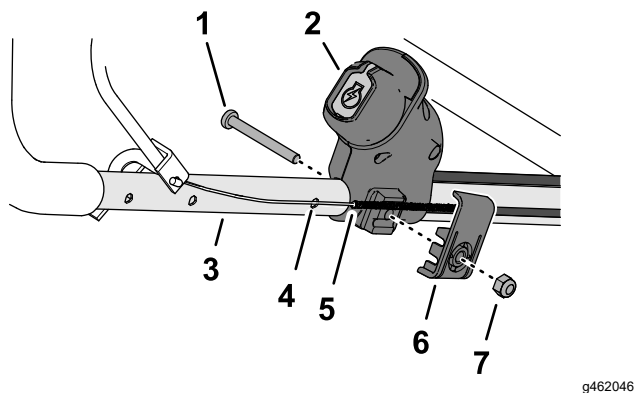

Figure 12
1. Assemble the electric-start switch onto the handlebar as shown (Figure 12).